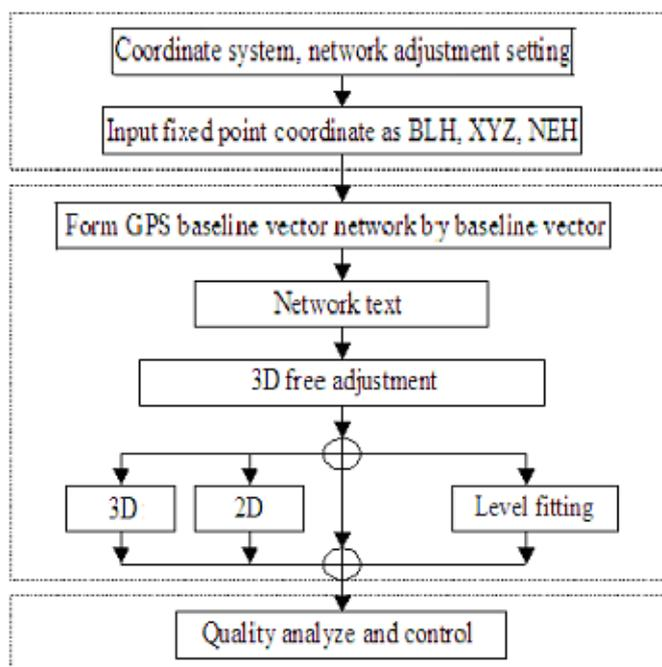

Figure 6-1
See Figure 6-1, for the basic network adjustment steps for the HGO Software Package, from the map you can find that the network adjustment including three procedures.
- ✧ The analysis and control to the quality of the processing result which are done by the user. Figure 6-1 The procedure of the network adjustment: